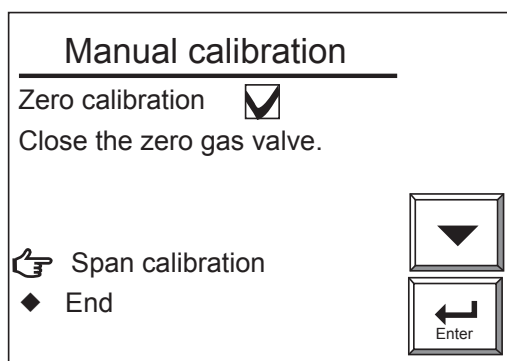

Figure 10.18 Zero gas Calibration Complete (in Manual Calibration Display)
- (1) Use the needle of the zero gas valve "CHECK GAS" to puncture a hole in the gas cylinder installed as described in Section 10.7.2. Fully clockwise turn the valve regulator by hand.
- (2) Next, adjust the flow rate to 600 ± 60 ml/min (the flow check ball stops floating on the green line when the valve is slowly opened). Turn the regulator of the zero gas valves back slowly counterclockwise. At that time, the flow rate also decreases as the inner pressure of the gas cylinder decreases. Therefore, monitor the flow check and, when the ball's position changes greatly, readjust the valve.
- (3) Select "Valve opened" (to start calibration) from the Manual calibration display. Check the Trend graph display to see that the measured value is stabilized. Then press the [Enter] key. The Manual calibration display shown in Figure 10.18 appears. Then stop the zero gas flow immediately. Turn the zero gas valve regulator fully clockwise. If this valve regulator is not properly adjusted, the needle valve will not close completely and a cylinder gas may leak.